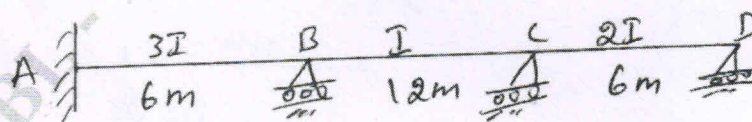

Fig. Q4 (b)
b. Develop the global stiffness matrix for the beam shown in Fig. Q4 (b) using element stiffness method. (12 Marks)